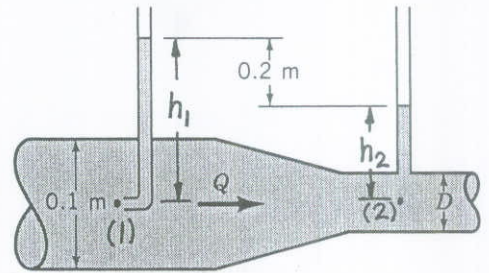

FIGURE P3.51
3.51 Water flows through the pipe contraction shown in Fig. P3.51. For the given 0.2-m difference in manometer level, determine the flow-rate as a function of the diameter of the small pipe,  $D$ .